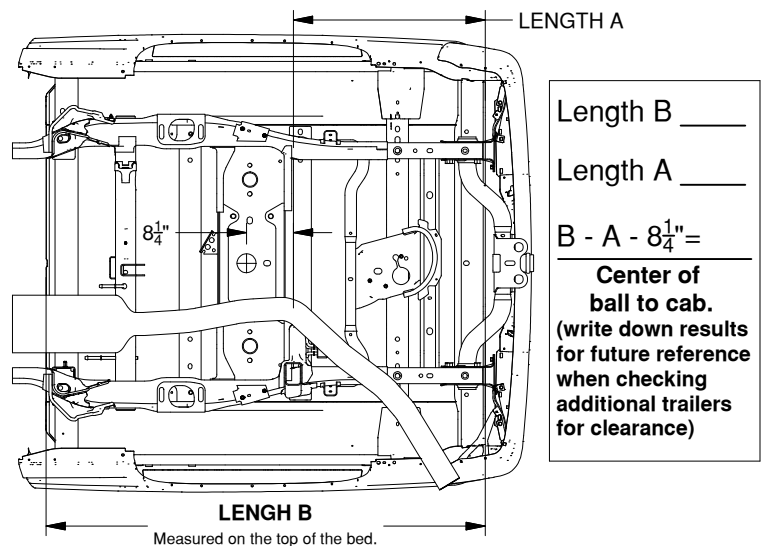
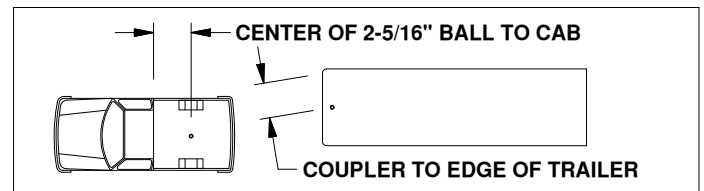

FIGURE A2: View of bottom of truck.
Figure A3: Truck and trailer diagram
1. **Determine cab clearance:** Under the truck bed, measure from the rear most edge of the C-channel frame crossmember (over the axle) to the end of the bed, see figure A2, Length A. Next, inside the bed, measure the length of the bed from the rear edge to the front, see figure A2, Length B. Subtract the crossmember measurement (length A) from the bed measurement (Length B). Then subtract an additional 8-1/4" inches. This will give you the amount of clearance you have between the 2-5/16" ball location and the cab. Measure the distance from the center of the trailer's coupler to the farthest forward corner point of the trailer. Compare this distance to the measurement from the center of the ball to the cab. These measurements will allow you to see how much clearance you will have between the cab and the trailer while towing and turning, see figure A3